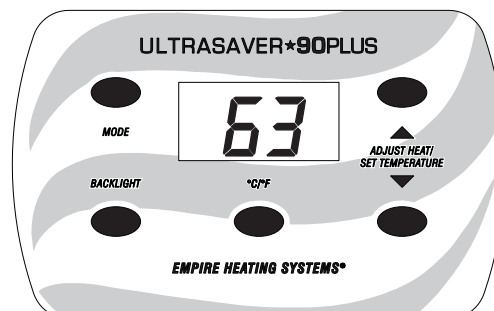

Figure 8
1. To operate the wall furnace in Local (thermostatic) mode, press the Mode Select button on the wall furnace display panel three times from the off mode. The display panel will show the current room temperature. **See Figure 8.**